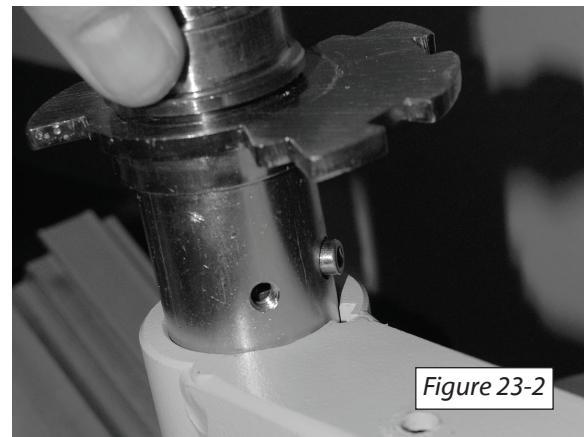

Figure 23-2
2. Place the rooster into the hole on the uphill side of the chassis. *[Figure 23-2] Align the remaining screw with the slot on the post hole.*